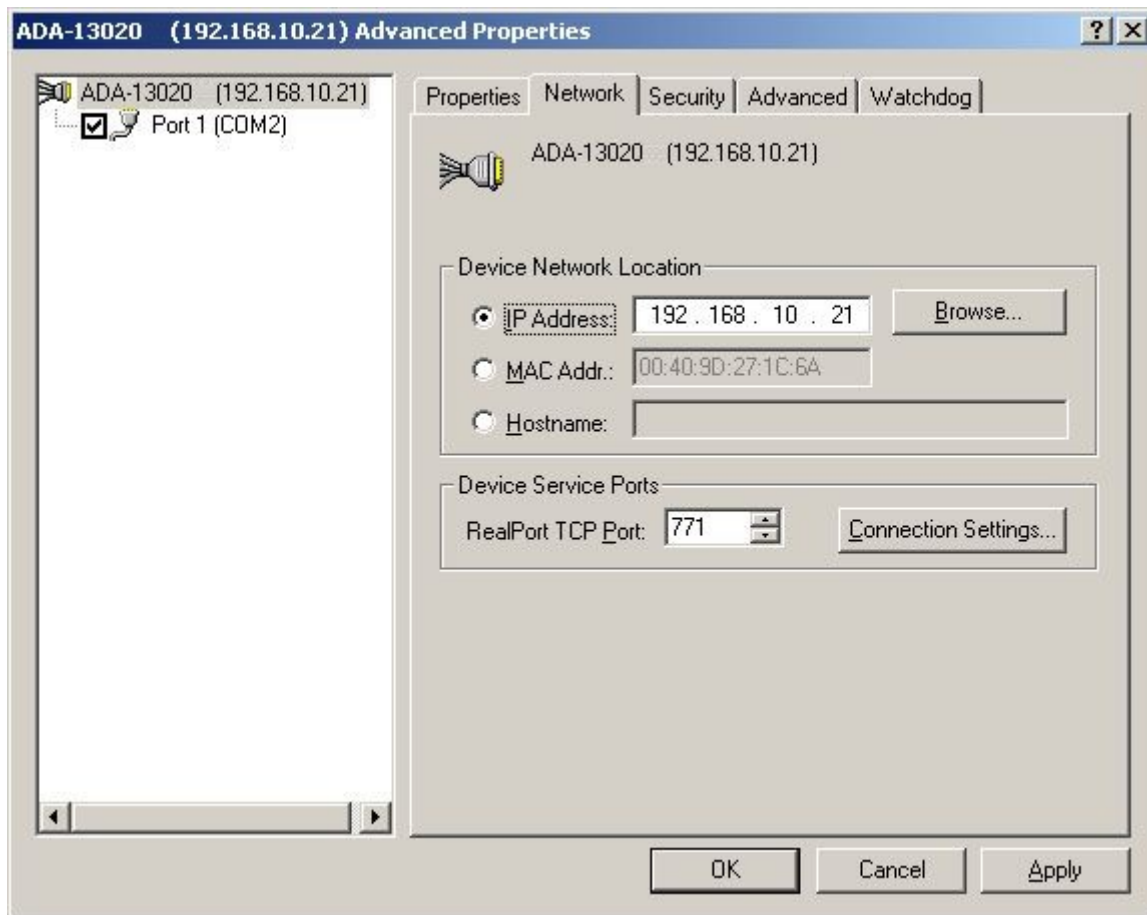

Fig 24. Example configuration of multi-port serial adapter
8. **Select IP address, MAC, DNS server for communication with virtual port driver**. In the window **[Advanced Properties]** click **[ADA-13020]** and then select **[Network]** (Fig. 24), and set the **IP address, MAC Address** or **DNS name** of the wireless serial server for communication with virtual port driver.